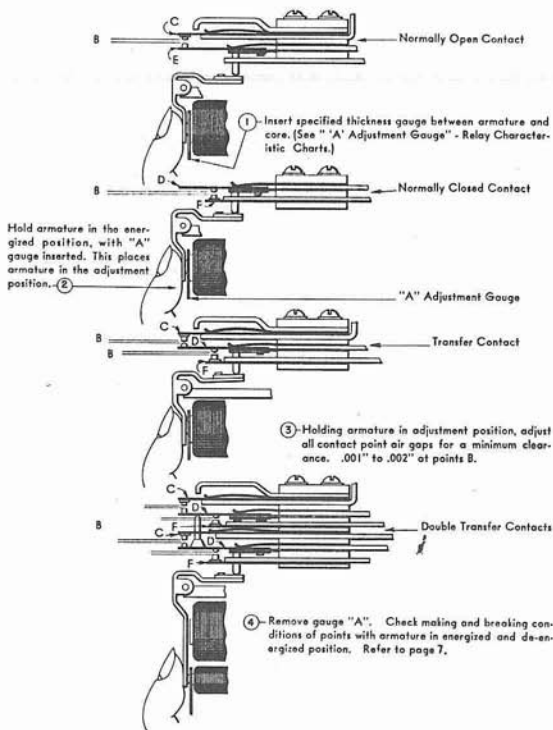

Figure 5. Contact Point Adjustments
Procedure (Figure 5):
- Adjust contact strap supports for a *minimum clearance* $.001''$ to $.002''$ between both normally open and normally closed points. Check to see that normally closed points break before normally open points make (Figure 5).